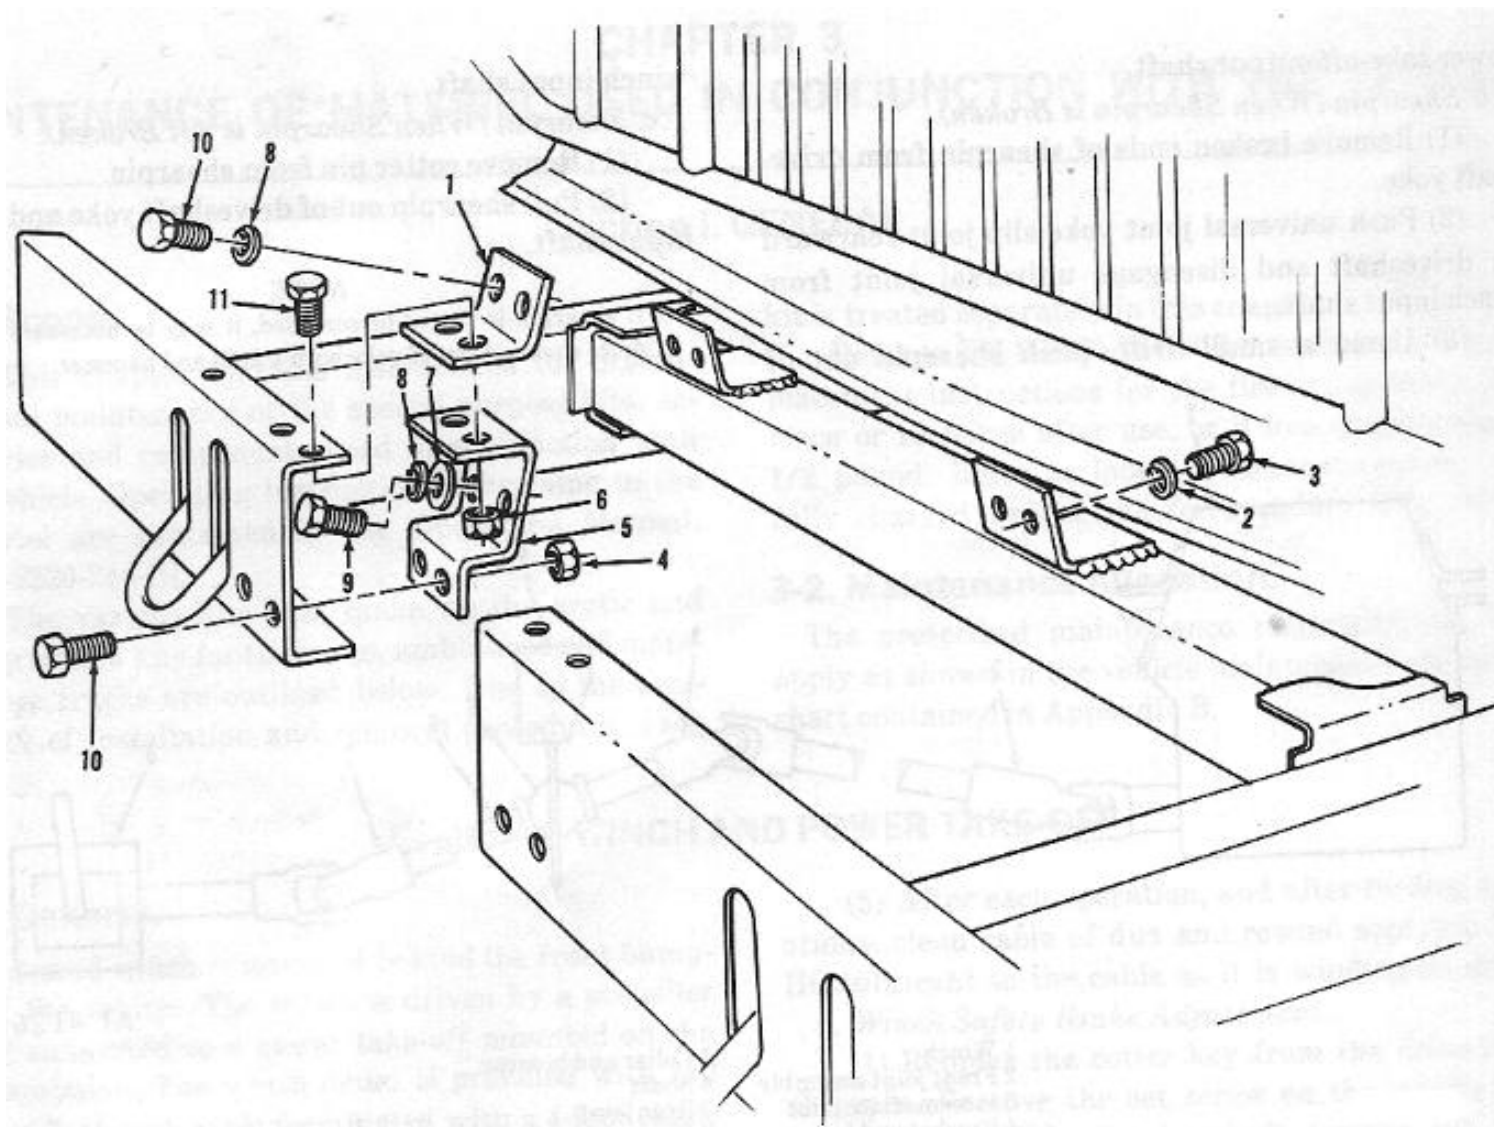

Figure 3-2. Winch mounting brackets.
(1) Place winch control in disengaged position and completely unwind cable from winch drum.
(2) Loosen cable setscrew which secures cable to drum and remove cable.
e. Winch and Mounting Brackets. (Fig 3-2)
(1) Remove winch driveshaft as described in (a) above.
(2) Support winch assembly with a jack or other suitable lifting device.
(3) Remove six bolts and lock washers which secure winch to rear mounting bracket.
(4) Remove towing shackles; remove eight bolts, nuts and lock washers securing front bumpers to winch brackets. Remove eight bolts, nuts and lock washers securing bumper side rails to frame.
(5) Lower jack and remove winch and front mounting brackets from vehicle.
(6) Remove nuts, bolts and lock washers which secure front mounting brackets to winch assembly.
- (1) Apply a thin film of engine oil to winch drum surface.
- (2) Insert cable through winch rollers and around the drum at the rear.
- (3) Insert cable through hole in drum and secure with setscrew.
- (4) Wind cable under load, applying CW-11C lubricant to the cable as it winds on drum. Refer to paragraph 3-4c for method of applying CW-11C lubricant.
d. Winch and Mounting Brackets. (Fig 3-2)
- (1) Position rear mounting bracket to frame assembly; install bolts, nuts and lock washers and tighten.
- (2) Install front brackets, bolts and lock washers into winch worm gear housing outer bolt holes, and tighten.
- (3) Support winch on jack or other suitable lifting device and raise into position.
- (4) Install six bolts and lock washers and secure rear bracket and winch assembly. Tighten bolts securely.
- (5) Install eight bolts, lock washers and nuts through front brackets and front bumpers. Tighten all eight attaching bolts. Install bolts, nuts and lock washers securing side rail extensions to frame. Tighten bolts securely.
- (6) Remove jack or lifting device.
- (7) Connect winch driveshaft as described in (a) above.